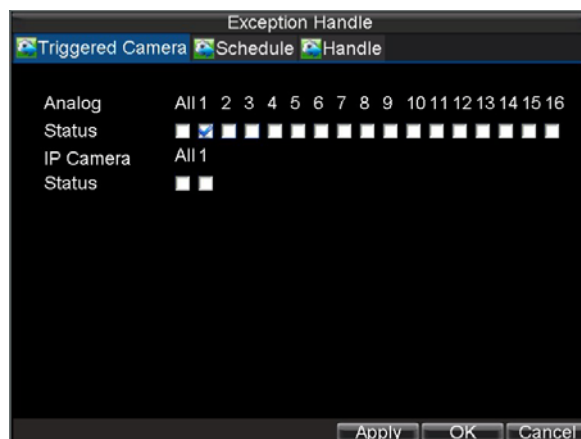

Figure 8. Triggered Cameras Menu
6. Select cameras to trigger for recording when alarm occurs by checking the checkboxes under the desired cameras, as shown in Figure 8.